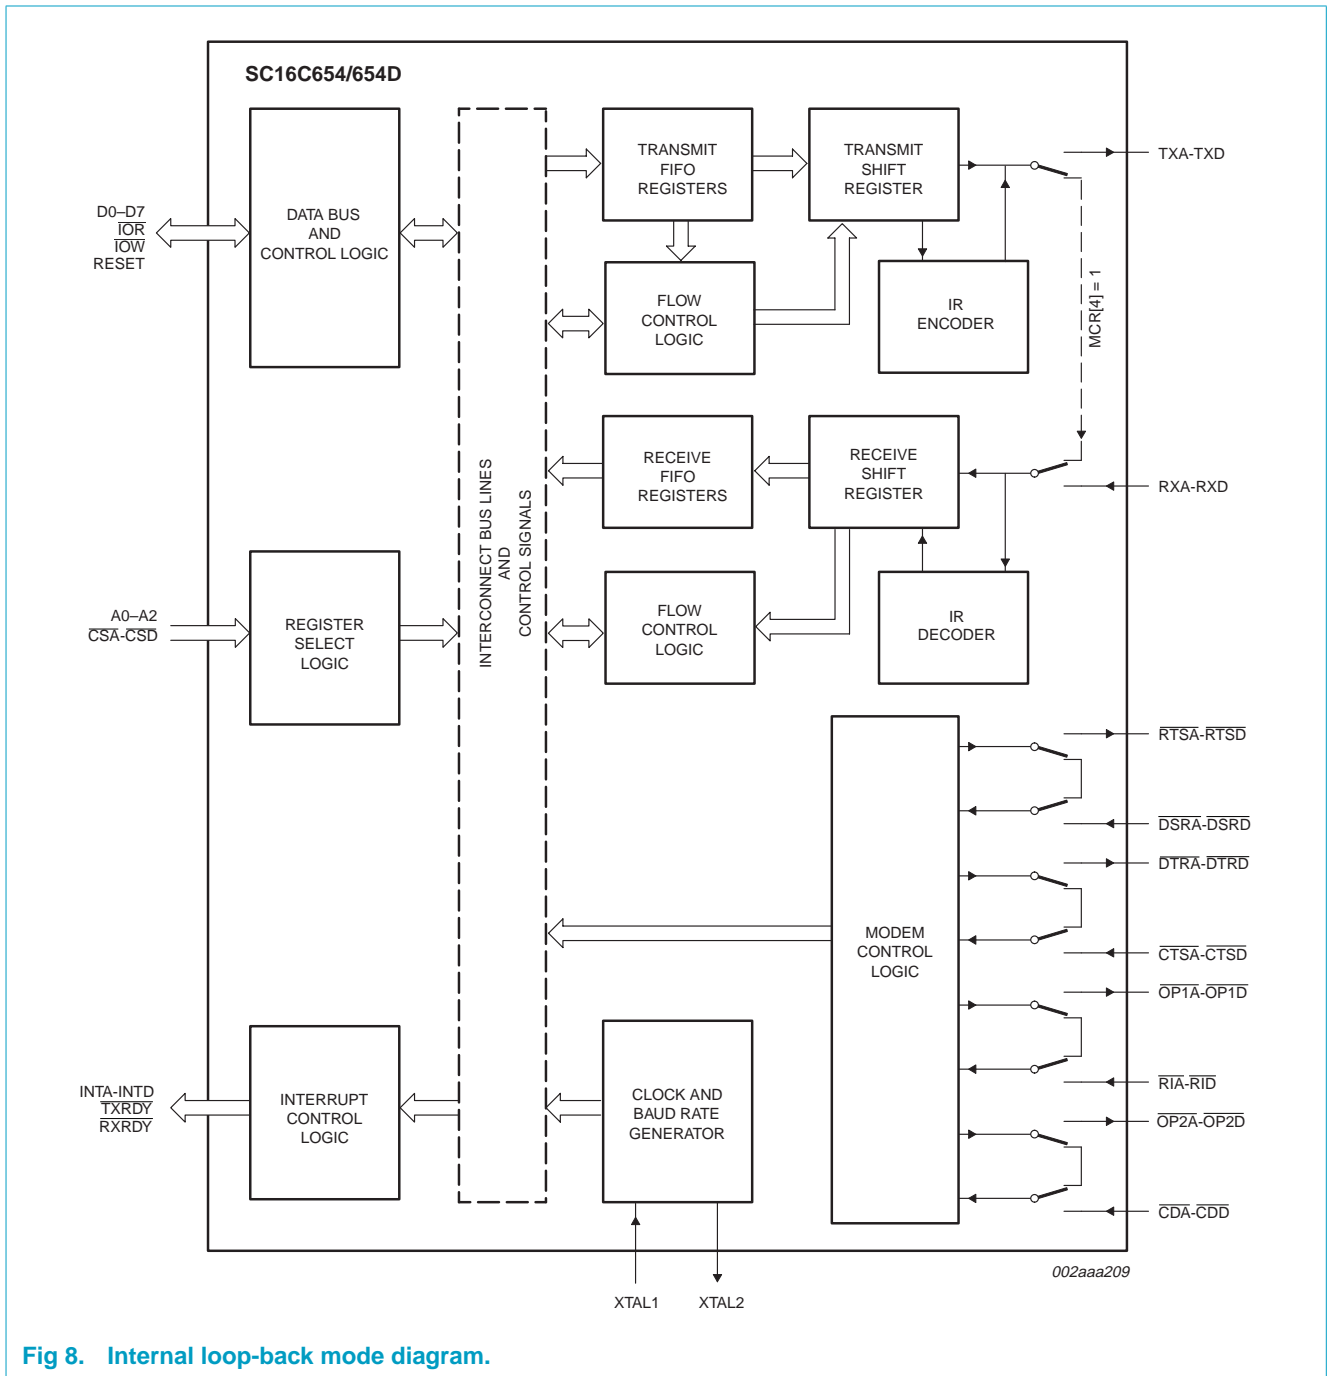

Fig 8. Internal loop-back mode diagram.
The internal loop-back capability allows on-board diagnostics. In the loop-back mode, the normal modem interface pins are disconnected and reconfigured for loop-back internally. MCR[0-3] register bits are used for controlling loop-back diagnostic testing. In the loop-back mode, OP1 and OP2 in the MCR register (bits 2-3) control the modem  $\overline{RI}$  and  $\overline{CD}$  inputs, respectively. MCR signals  $\overline{DTR}$  and  $\overline{RTS}$  (bits 0-1) are used to control the modem  $\overline{CTS}$  and  $\overline{DSR}$  inputs, respectively. The transmitter output (TX) and the receiver input (RX) are disconnected from their associated interface pins, and instead are connected together internally (see Figure 8). The  $\overline{CTS}$ ,  $\overline{DSR}$ ,  $\overline{CD}$ , and  $\overline{RI}$  are disconnected from their normal modem control input pins, and instead are connected internally to  $\overline{DTR}$ ,  $\overline{RTS}$ ,  $\overline{OP1}$  and  $\overline{OP2}$ . Loop-back test data is entered into the transmit holding register via the user data bus interface, D0-D7. The transmit UART serializes the data and passes the serial data to the receive UART via the internal loop-back connection. The receive UART converts the serial data back into parallel data that is then made available at the user data interface D0-D7. The user optionally compares the received data to the initial transmitted data for verifying error-free operation of the UART TX/RX circuits.